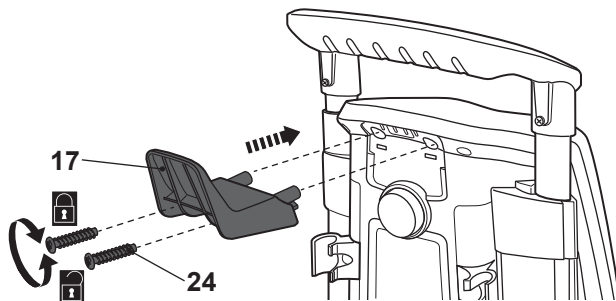

Fig. 1
- > Align the mounting holes and assemble the pressure hose holder (17) onto the product.
- > Secure the connection with the long screws (24) (Fig. 1).